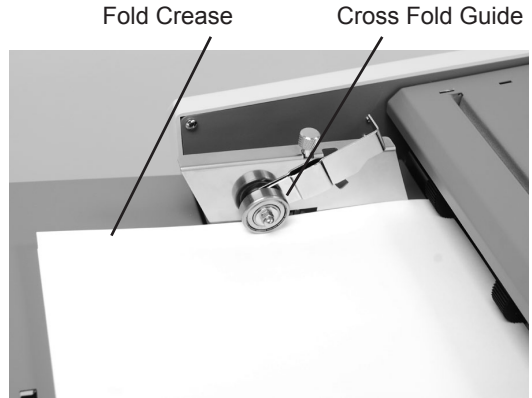

Fig. 13a
1. Load folded paper into the feed tray with the fold crease facing the non-operator side of the folder (Fig 13a).